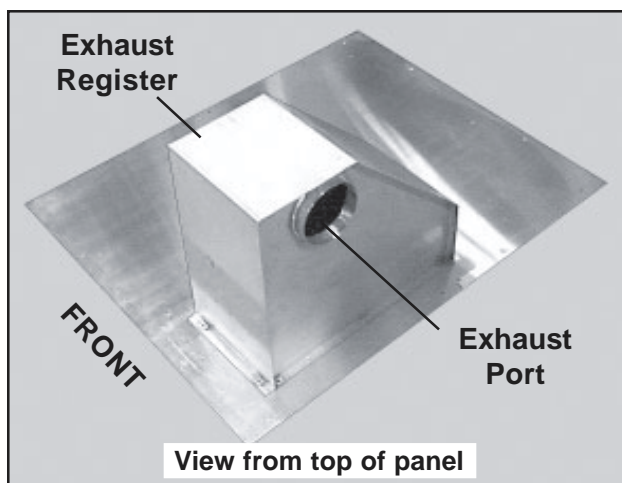

Figure 86. Center Ceiling Panel with Exhaust Register
4. Loosen the hose clamp on the exhaust register end of the exhaust flexible duct and disconnect the duct from that exhaust port (Figure 86).
5. Unscrew the seven Phillips screws from the center panel, and remove the panel and attached exhaust register from the cubicle ceiling (Figure 86).